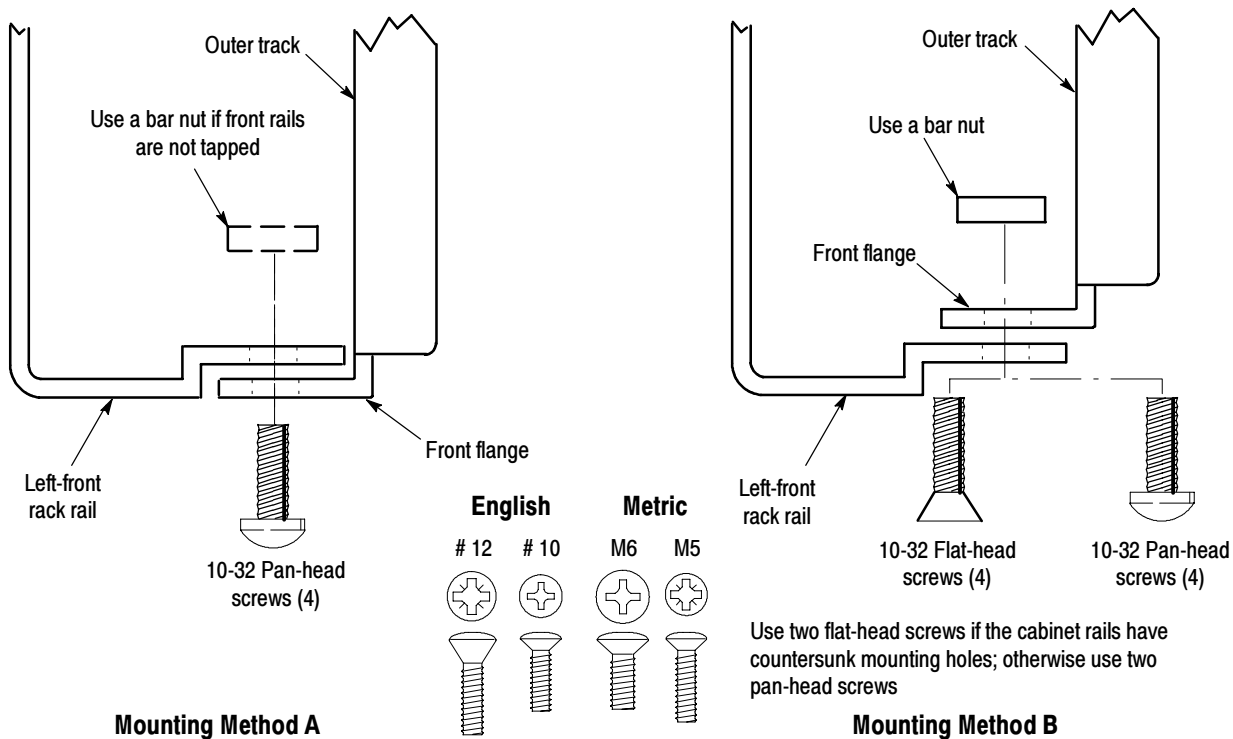

Figure 12: Installation of slide-out track assemblies in rack (top view)
- To mount the slide-out tracks with their front and rear flanges outside of the front and rear rails, use the mounting method A shown in Figure 12 when doing substep c. Add a bar nut to the installation only if the rails have untapped holes.
- To mount with front and rear flanges inside of rails, use the mounting method B outlined in Figure 12. This mounting method assumes untapped holes.